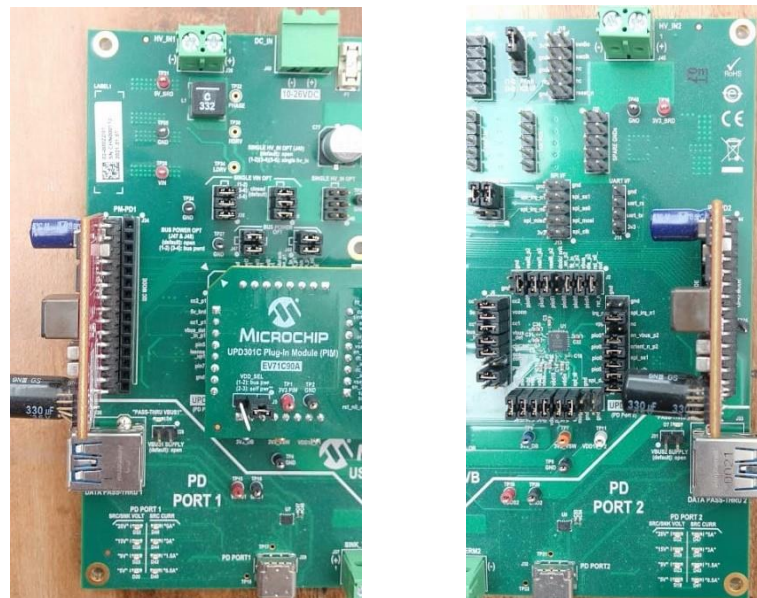

Figure 5.1 PM-PD Orientation
1. Connect PM-PD cards to J35 and J44 of the EVB-PSF in correct orientation as shown in Figure 5.1